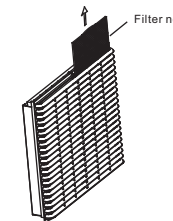

Fig.2
2. Pull upwards and take out the filter net, rinse it with water and clean with soft brush. (As Fig.2)